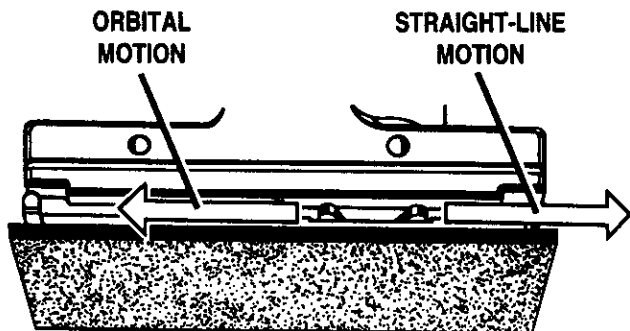

Fig. 4
The dual motion feature of your sander provides required motion for any sanding application. The readily accessible slide lever makes motion setting changes quick and easy. See Figure 4.
- For straight-line motion, slide lever forward as shown in Figure 4.
- For orbital motion, slide lever backwards as shown in Figure 4.